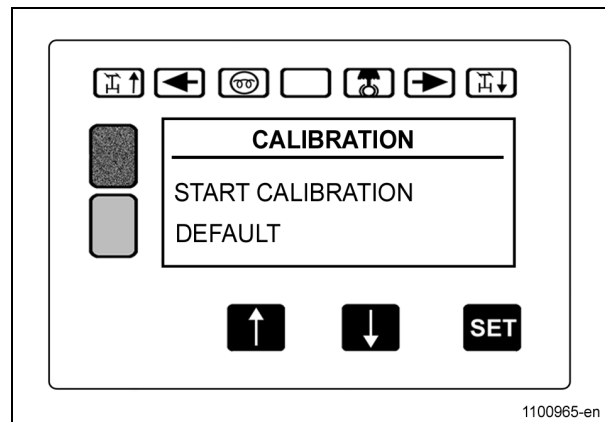

Fig. 1
- After confirming the selection with the SET key you are asked whether you want to perform the calibration confirmed "START CALIBRATION" or "DEFAULT" (Fig. 1).